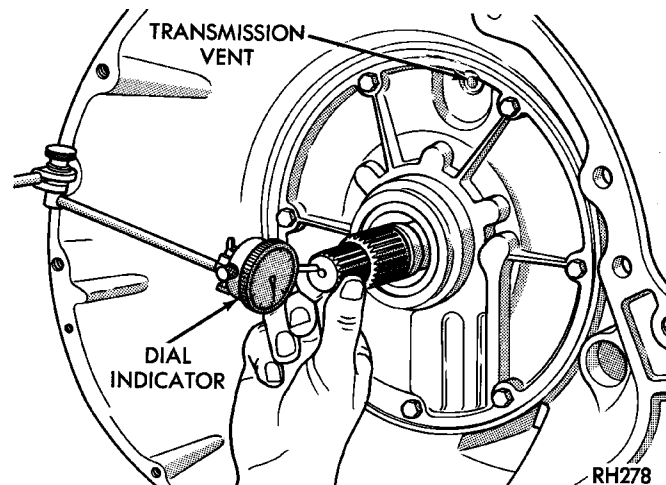

Fig. 144 Checking Input Shaft End Play
- (1) Check input shaft end play as follows.
- (2) Attach dial indicator to converter housing (Fig. 144). Position indicator plunger against input shaft and zero indicator.
(3) Move input shaft in and out and record reading.
(4) End play should be 0.86 - 2.13 mm (0.034 - 0.084 in.).
(5) If end play is incorrect, change intermediate shaft thrust washer. The thrust washer controls end play and is available in three thicknesses for adjustment purposes.